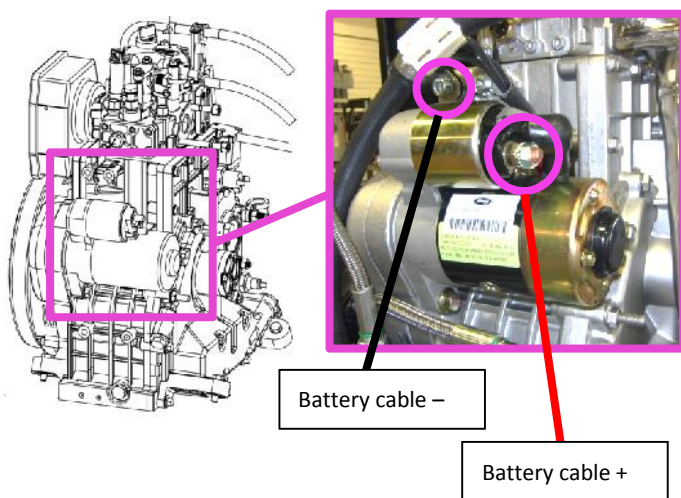

Figure 21: Connecting the battery cables to the starter motor
- 8 Connect the battery cables to the starter motor as illustrated in Figure 21 :